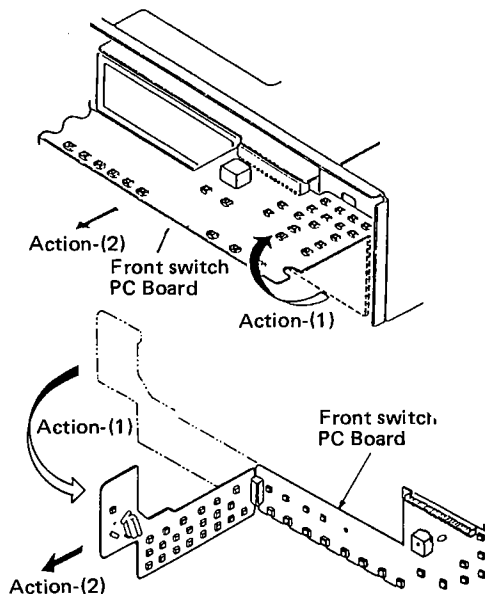

Fig. 2
2. Pull off three plastic rivets (B) fixing the front switch PCB.
3. Lift up the front switch PCB and pull it off toward you from the connectors. (See Fig. 2.)